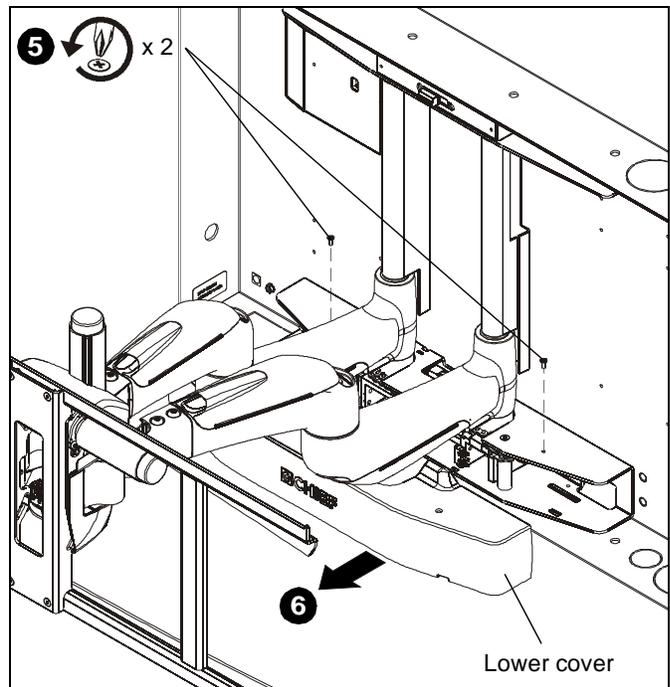

Figure 17
5. Remove and save two screws from lower cover. (See Figure 17)
6. Remove and save lower cover. (See Figure 17)